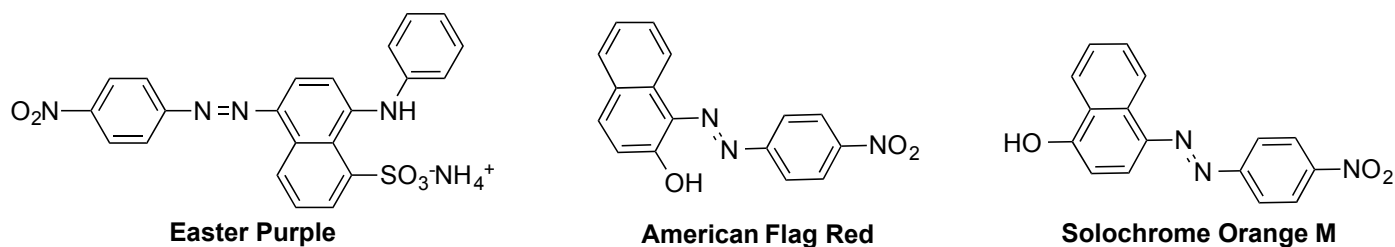

Figure 2. Examples of water-soluble azo dyes
Azo Dyes encompass the largest family of dyes. They contain an azo group, $-N=N-$, linking two aromatic rings. Because of their extended conjugated pi-orbital systems, these aromatic compounds absorb in the visible region of the electromagnetic spectrum and are deeply colored, often vibrant orange. This implies that azo dyes *absorb* relatively short wavelengths of light. TO BE USEFUL AS DYES, AZO COMPOUNDS MUST BE SOLUBLE IN WATER. This can be achieved by having polar and ionic groups attached to the aromatic rings. Sodium salts of sulfonic ($-\text{SO}_3\text{Na}$) and carboxylic ($-\text{CO}_2\text{Na}$) acids work well for this purpose. Easter purple and American flag red (AFR) are examples of ionic azo dyes (**Figure 2**). Recall that nitro (NO_2) group contain a positively charged nitrogen and negatively charged oxygen. Simple changes in substituents and substitution patterns can make significant enough changes to be noticed by the naked eye, as evidenced by the comparison of **Solochrome Orange M** to **AFR**.
3. Consider the dye **American Flag Red** and indicate its predominant IMF (**Figure 2**). Do you expect this dye to adhere better to cotton or to polyester? Base your response on the information in #2 above.